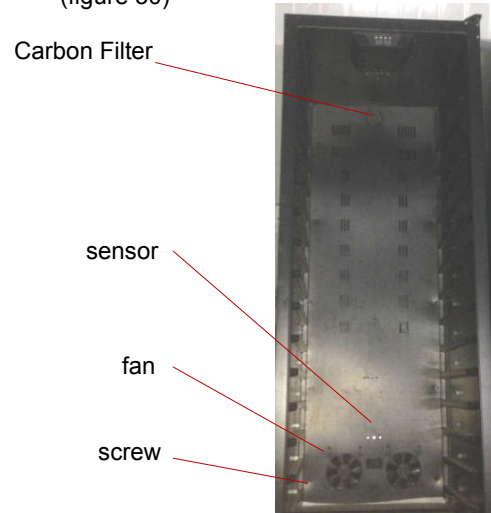

Figure 30
1. Loosen screws. Pull out the rear air duct cover. (figure 30)